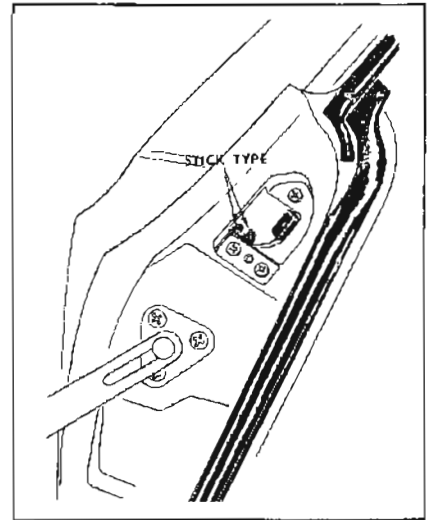

Figure 1-17—Tail Gate Lock Striker Lubrication
11. Tail Gate Lock Striker - Apply a thin coat of stick type lubricant to surface of lock bolt striker teeth. After lubrication, close door several times and remove excess lubricant. See Figure 1-17.